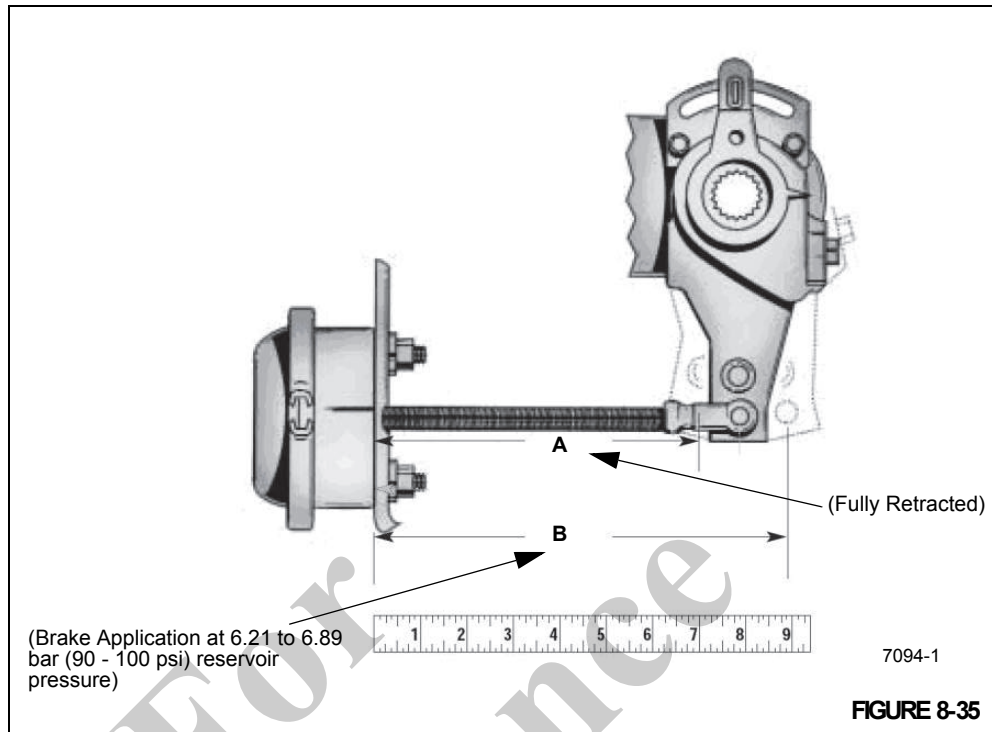

FIGURE 8-35
5. With service brakes released, measure distance from slack adjuster clevis pin to chamber mounting face on each brake. Refer to Dimension "A" in (Figure 8-35).
6. Starting with 6.21 to 6.89 bar (90 to 100 psi) air tank pressure in both primary and secondary systems, fully apply service brakes and hold brakes on. Do not pump the brakes. Measure between the same points as in step 5 on each brake. This is Dimension “B” (Figure 8-35).
7. Subtract Dimension “A” from Dimension “B” for each brake position (Figure 8-35). This value cannot exceed 5 cm (2 in) on the front brakes or 6.3 cm (2.5 in) on the rear brakes.